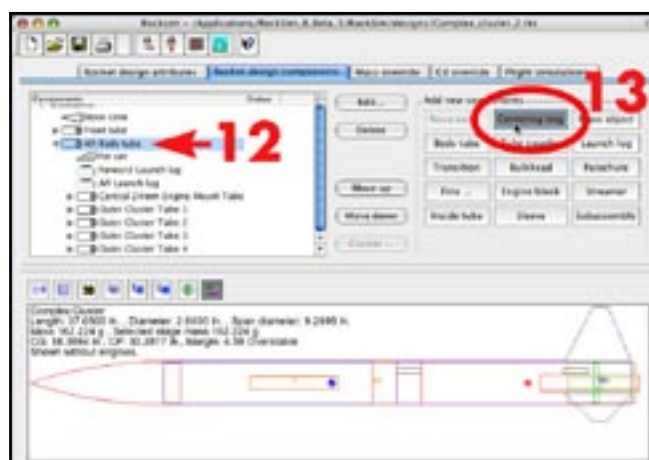

Figure 13
12. At this point, we're ready to add in our centering rings that will hold all those tubes in the cluster in the right position. Highlight the outer tube again, since this is where the ring will fit (see Figure 13).